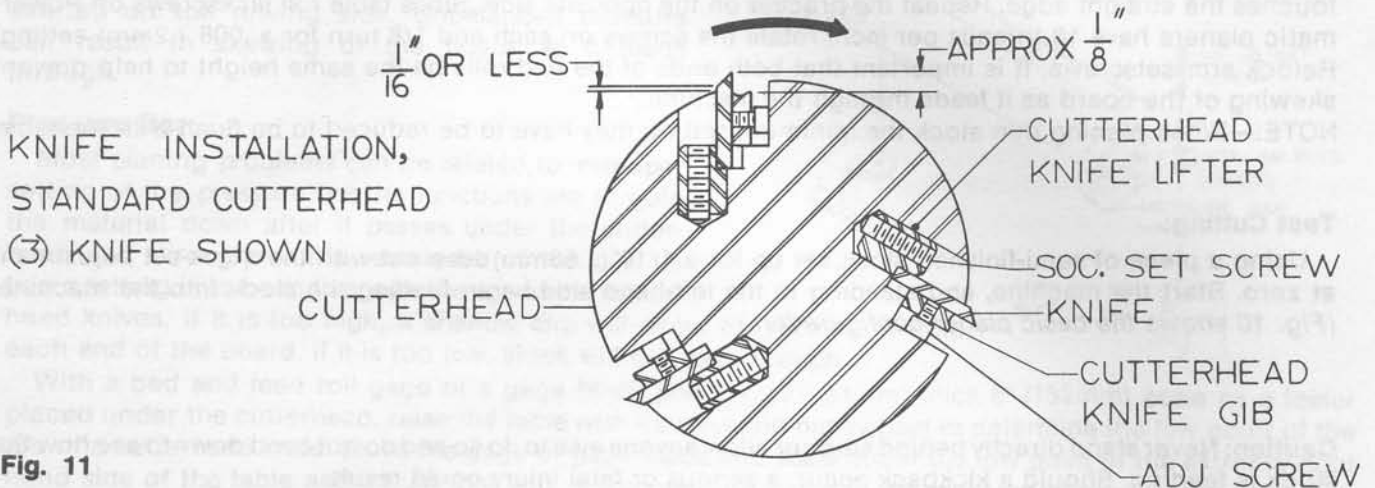

Fig. 11
6. Using an Allen wrench in the jack, raise the knife to be approximately $1/8"$ (.125") (3.18mm) projection from the cutterhead body. Move the gage to the opposite end and repeat the process. Finally, check the center section to be sure it is within tolerance. If it is low, try backing off slightly on the center gib screw. If it is too high, jointing and possibly grinding will be necessary. Recheck the full length of the knife and be sure it is the same height. The heel of the bevel should be $1/16"$ (1.59mm) or less outside of the cutterhead body and the top of the gib should be approximately $1/8"$ (3.18mm) down from the tip of the knife. (Fig. 11)